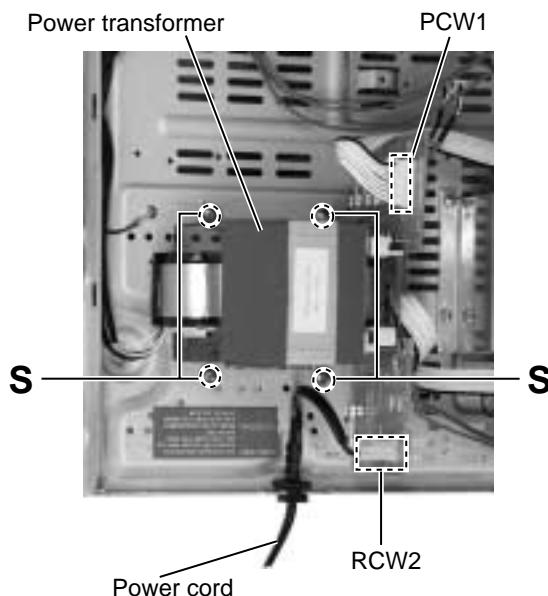

Fig.19
■Removing the power transformer (See Fig .19)